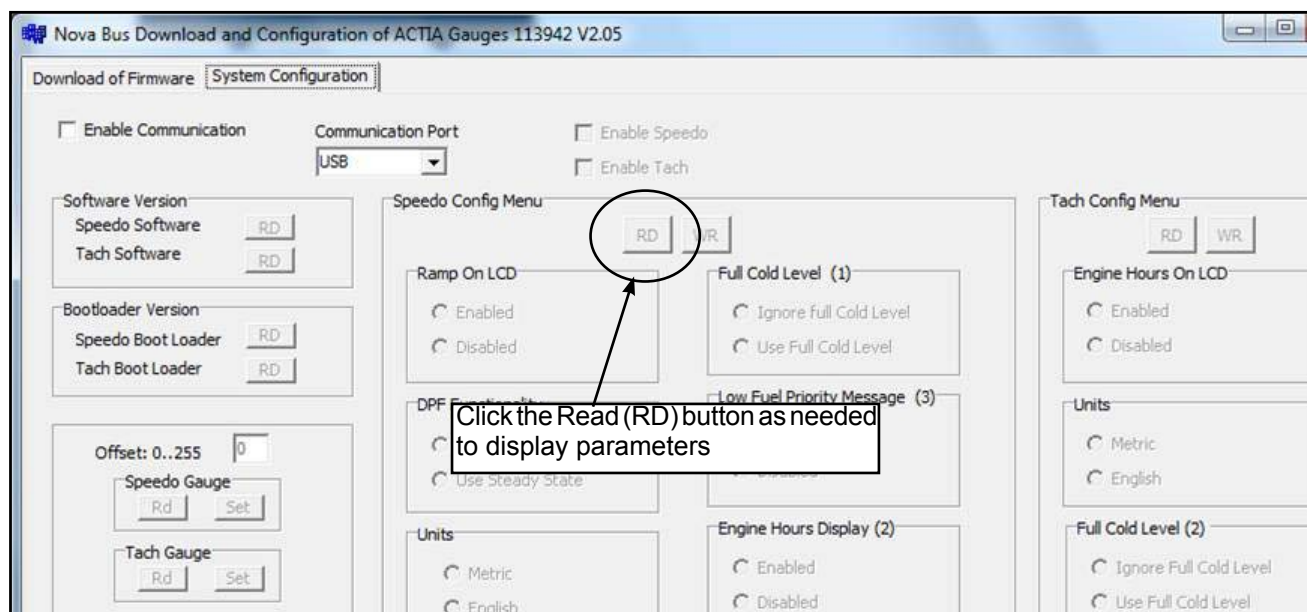

Figure 9 - Click the Read (RD) Button
3.1.4 Click the Read (RD) button in each section as needed to display the configuration of parameters (see Figure 9).